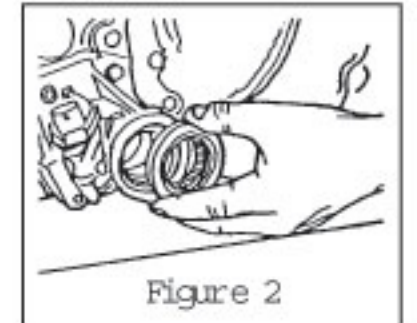

Figure 2
3. When installing the Teckpak Stabilizer, line up the lube hole with the return slot in the extension housing, (Figure 2).